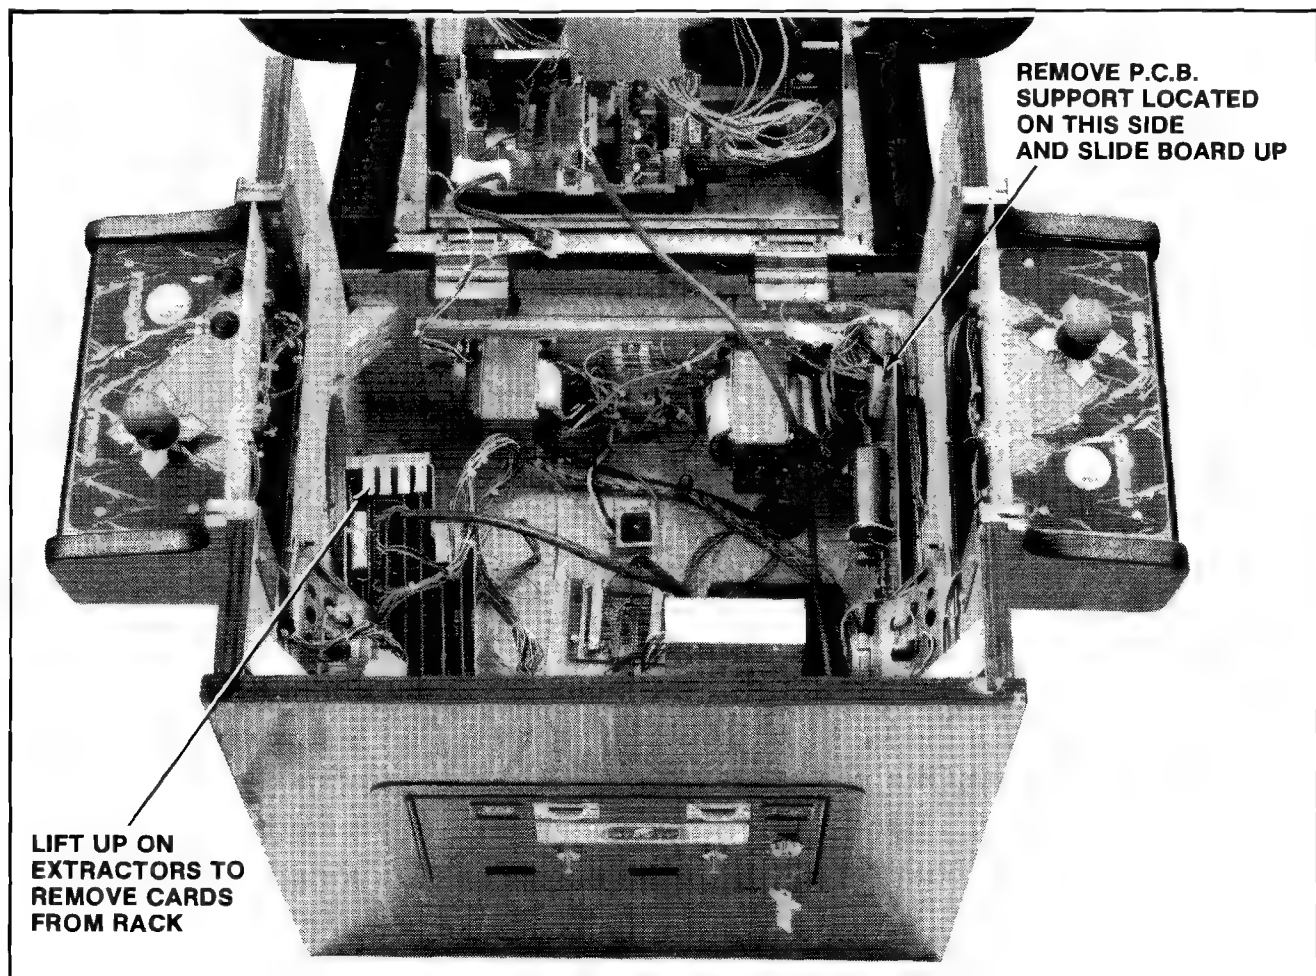

Figure 2-25 Removing Printed Circuit Boards - Cocktail
2.8.3 COCKTAIL TABLE MODEL: (See Figure 2-25) (Cont'd)
- ☐ To remove the power supply board. See Figure 2-25.
- ☐ To remove the PCB's from the commercial card rack. See Figure 2-25.